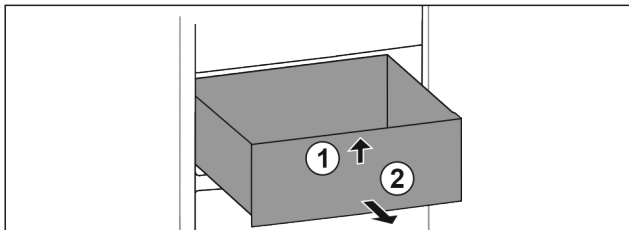

Fig. 113
- Lift up drawer at the front. Fig. 113 (1)
- Remove drawer to the front. Fig. 113 (2)